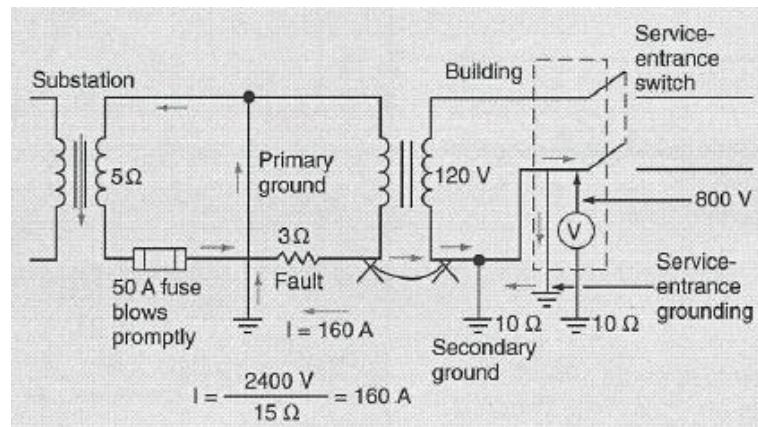

Figure 4.9: Fault in Properly Grounded Transformer
- 4-29 Figure 4.9 shows the same circuit with two 10 Ω grounds added. A secondary ground on the transformer and a ground on the line side of the service entrance switch. The tow 10 Ω grounds in parallel have a combined resistance of 5 Ω. To this resistance you must add the resistance of the substation line and the impedance of the substation transformer.
- 4-30 The fault in the building transformer applies a potential difference of 2400 V across this total resistance of $15\ \Omega$. The current is therefore 160 A, as shown by the calculation in Figure 4.9. The 160 A current far exceeds the rating of the 50 A fuse located in the substation line, and therefore the fuse quickly blows.
4-32 In the examples given so far, the fault has been assumed to have no impedance. The following examples are based on the same circuit shown in Figure 4.9 except that the fault adds an impedance of 30 or 60 Ω .